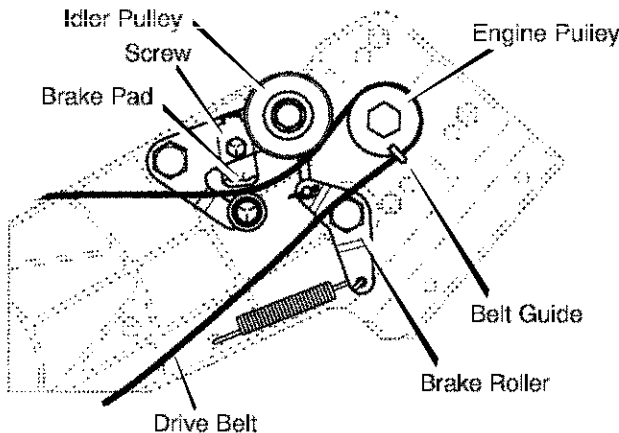

Figure 14
4. Loosen the screw and nut on the brake pad arm (Figure 14).